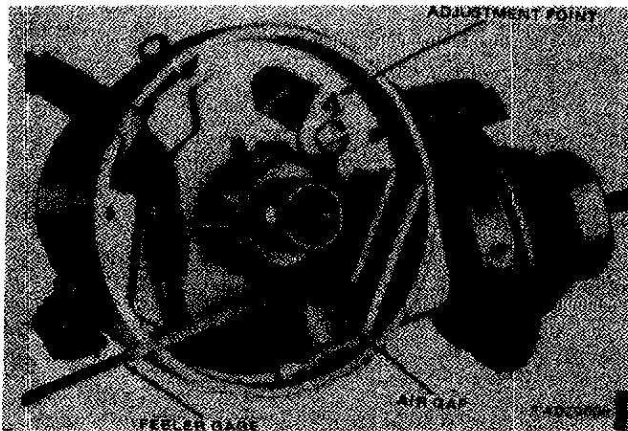

Figure 2-36. Air Gap Adjustment.
(1) Aline one reluctor tooth with the pickup coil tooth.
(2) Loosen the pickup coil hold-down screw.
(3) Insert a 0.008 non-magnetic feeler gage (C-4229) between the reluctor tooth and the pickup coil tooth (figure 2-36).